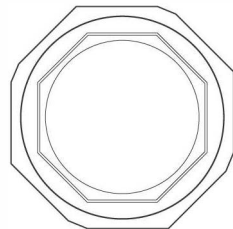

FIGURE 1
A. For manway flange or tank sump adaptor mounting nipples, locate center indicator in sump base for proper alignment of template (See FIGURE 1). After holes are drilled, sand surrounding area with 80 grit or coarser sandpaper or gridner. Clean sanded surface with Acetone to remove any debris, oils, mold waxes or release agents. Apply a generous bead of Bostik adhesive to the outside of the sump, all around of the hole pattern. Mount sump and tighten nuts in a star pattern to ensure an even seal. **Backfill the void between the tank top and the bottom of the sump base with clean fill or pea rock.**